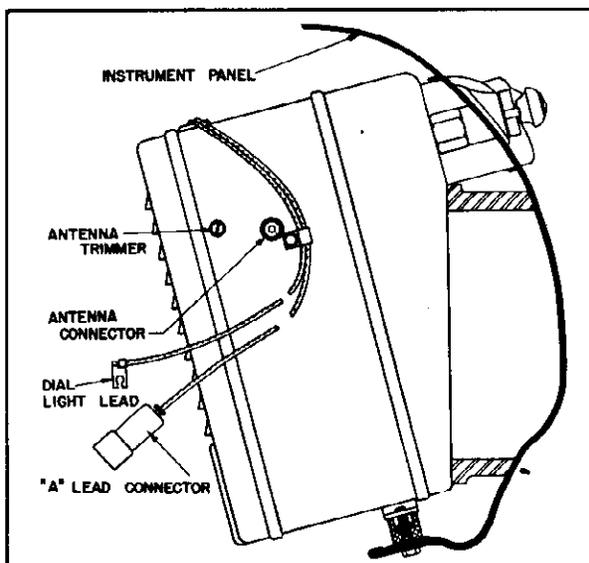

Figure 64
9. Assemble the two upper mounting spacers on the manual tuning control and volume control bushings. (See Figure 64.)
12. Assemble the two lower mounting bolts in the weld nuts in bottom of receiver and tighten securely. (See Figure 64.)
- "A" lead to male fuse holder. (See Figure 64.)
15. Plug the antenna lead into the antenna socket on side of the receiver. (See Figure 64.)